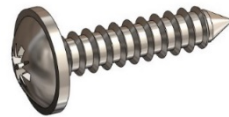

Figure 28 – Screw fixing locations for the heat exchanger.
3. Align screws with the holes in the heat exchanger and fix the heat exchanger frame to the timber upstand. Using the 16 number ST4.2 stainless screws supplied *4 per side* - *see figure 28.*